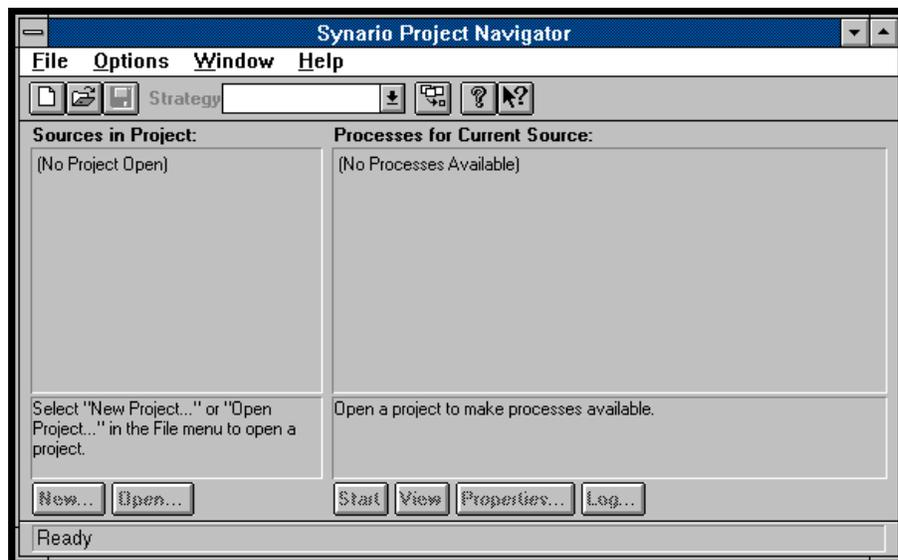

Figure 1-1. Synario Project Navigator Window
1. Start the ISP Synario System by double-clicking on the ISP Synario icon in the ISP Synario program group. The Synario Project Navigator window appears (Figure 1-1).